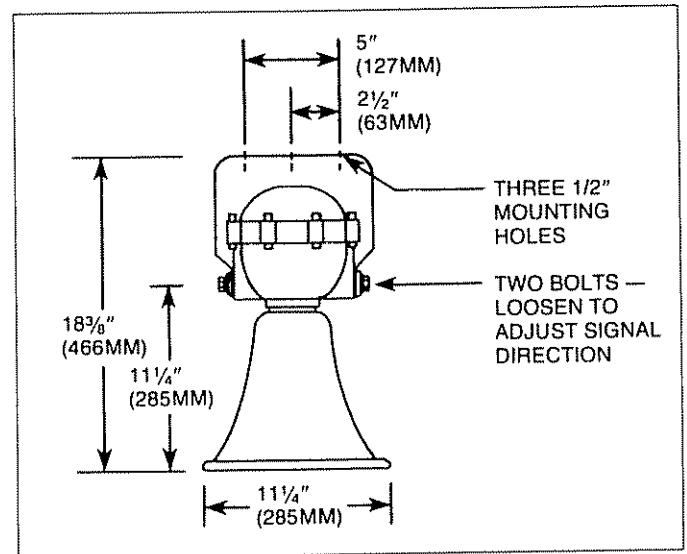

Figure 1. Signal Dimensions and Mounting Details
Dimensions . . . . . See Figure 1
- 3. Install Unit.** Mount unit in selected location using its mounting bracket and three bolts (not supplied). See Figure 1 for size and location of mounting holes.
- 4. Signal Direction Adjustment.** To adjust signal direction, loosen the two bolts shown in Figure 1. Rotate the signal to the desired position and then tighten the bolts.